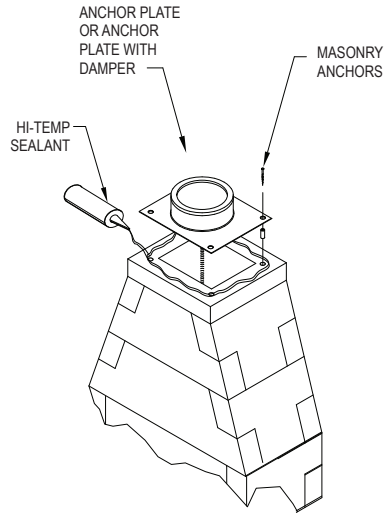

Figure 24
the masonry flue opening. If a Damper is used, make sure nothing interferes with the damper plate movement. Seal the Anchor Plate in place with a high temperature sealant. Secure Anchor Plate with (4) 2" x 1/4" masonry anchors (**Fig. 24**).